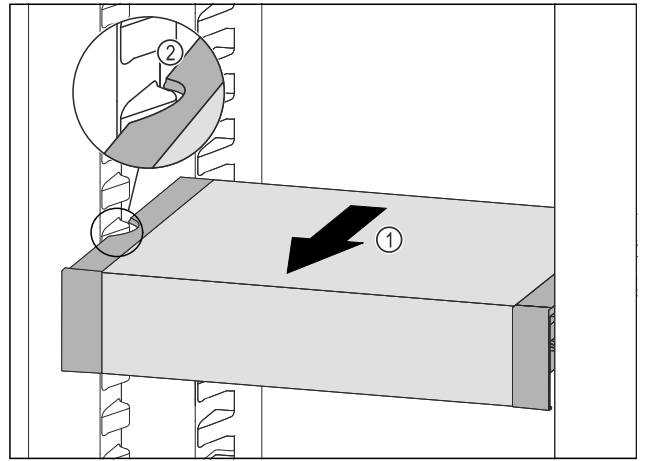

Fig. 82
- ▶ Pull VarioSafe forwards Fig. 82 (1) until the recesses in the side of the VarioSafe are at the level of the support rib in the refrigerator compartment. Fig. 82 (2)